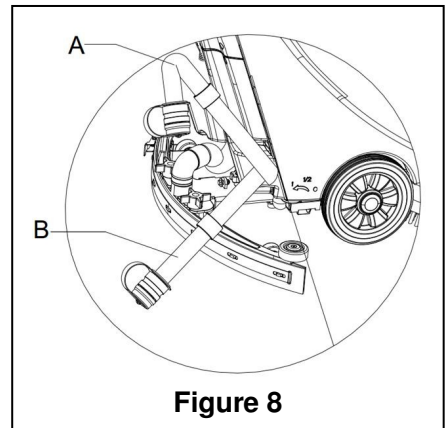

Figure 8
2. Raise the squeegee assembly (14).
4. Grasp the handle (2) and tilt the machine backward until the guide wheel touches the floor.
5. Remove the drain hose from the clip, bend the top end of draining hose (A, Figure 8), and then remove the drain hose cap. Lower the hose to a low level or on the ground to drain the water. Alternatively, place drain hose to a low position or on the ground to make the water outlet face
downward (B, Figure 8), and then twist open the drain cap to drain the wastewater in the tank. After draining is completed, rinse the inside of recovery tank with clean water
**When draining the wastewater, the drain hose must be folded or lowered to a lower position (Figure 8 A or B), and the cap removed for wastewater to drain. Do not allow the opening of the drain hose to face upward, as it could get wastewater on the operator..**